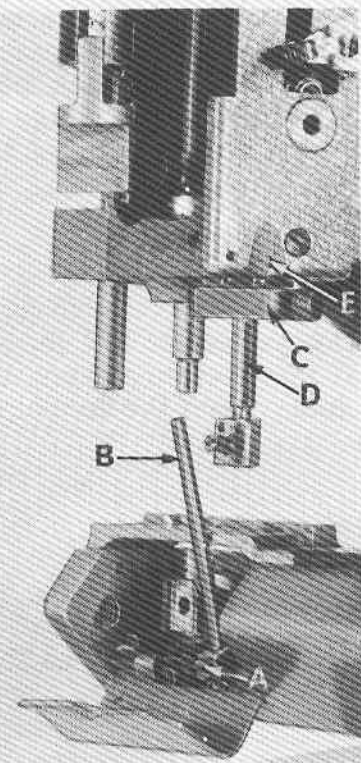
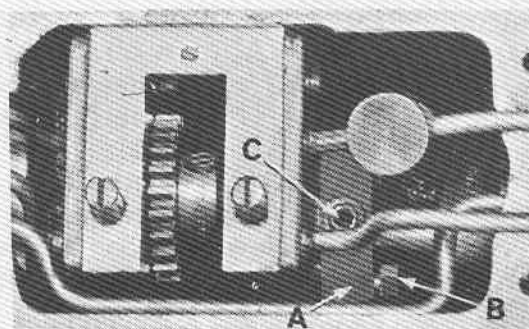

Fig. 3
Fig. 4
To synchronize the machine, remove the needles, presser foot, throat plate and feed dogs. The upper feed roller mechanism **MUST** be removed on Styles 35800 DK, DL and DN machines. Rotate handwheel in the operating direction until the needle bar is at the bottom of its stroke and just begins its upward travel. Loosen screw (A, Fig. 3) and remove the looper for the left hand needle from the looper holder. Insert a straight steel rod (B) 5/32 or 11/64 inch diameter by 2 1/2 inches long into looper holder and retighten screw (A). It may be necessary to re-position the looper holder so that the rod (B) will be in a vertical position when at its farthest travel to the right. Rotate the handwheel until the rod is at extreme left, re-install the throat plate. Turn the handwheel in the operating direction, raising the needle bar until the rod (B) comes in contact with the edge of the throat plate. At this point, clamp Union Special timing gauge No. 21225 H (C) around the needle bar (D), flush against the underside of the machine casting (E). Rotate handwheel in the opposite direction until either the gauge contacts the machine casting on the upstroke of the needle bar or the rod contacts the edge of the throat plate. Maximum allowable clearance between gauge and casting or rod and throat plate is .005 inch.
Both ends of the adjustable split coupling are secured to the crankshaft and main shaft by spot screws and set screws. On the main shaft end of the coupling (A, Fig. 4) three screws (B) thread horizontally through the coupling. The holes in the main shaft end of the coupling are drilled several thousandths larger than the diameter of the screws, permitting several degrees of rotation in either direction to properly synchronize the needle and looper. Loosen the three horizontal clamp screws (B, Fig. 4) and with the rod (B, Fig. 3) at its farthest position to the left, barely tighten the uppermost horizontal clamp screw enough to hold the coupling (A, Fig. 4) in position. If the handwheel is turned in reverse of operating direction and the gauge (C, Fig. 3) on the needle bar (D) contacts the machine casting (E) before the rod (B) contacts the edge of the throat plate, loosen the horizontal clamp screw which was barely tightened, while holding the coupling in place by the set screw (C, Fig. 4) with an Allen wrench. Rotate the handwheel **SLIGHTLY** in reverse of operating direction, snug the uppermost horizontal clamp screw and use shim gauge to insure no more than .005 inch exists